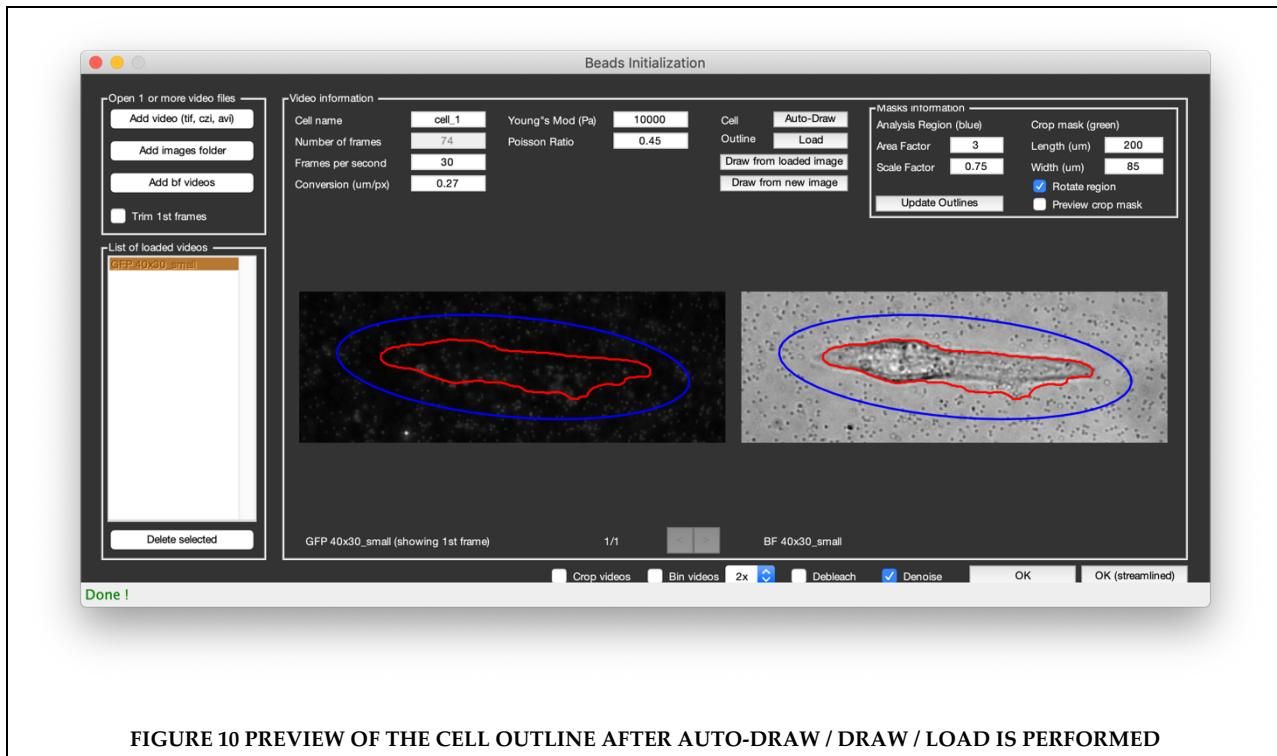

FIGURE 10 PREVIEW OF THE CELL OUTLINE AFTER AUTO-DRAW / DRAW / LOAD IS PERFORMED
6. The cell outline is displayed in red and the analysis area in blue (Figure 10). The size of the analysis area can be changed, see step 9.